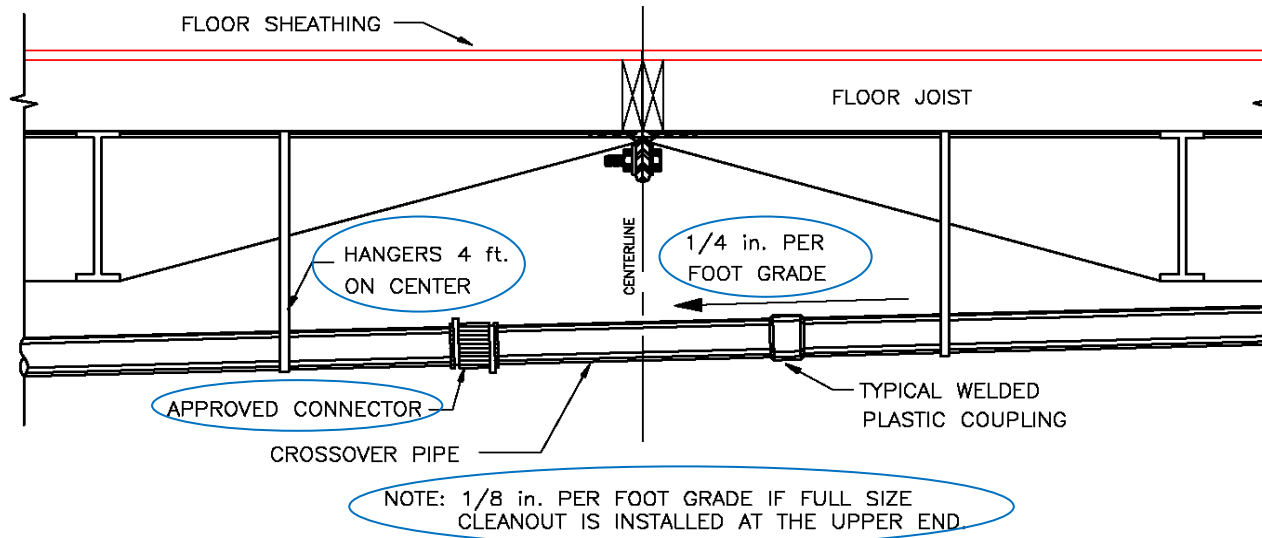

Figure 7-8.1 Typical Drain Line Support and Crossover Connection
- Piping must be installed to provide a minimum 1/4 inch per foot grade in all horizontal drain piping. See Figure 7-8.1
- When a cleanout is installed at the upper end of the run, the grade may be reduced to 1/8 inch per foot. See Figure 7-8.1
- Piping must be supported at 4 feet on-center for rigid drain piping (ABS or PVC). Horizontal piping under the home does not require vertical rigid support. See Figure 7-8.1
Drain line crossover connections in multisection manufactured dwellings must be connected in accordance with one of the following. See Figure 7-8.1